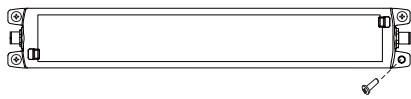

Figure 9. SG Type Installation
- After tapping the mounting holes to a flat and sturdy surface, use four M5 screws for mounting, as indicated in the following figure. The recommended torque for the M5 screw is 2.8 N·m. [Refer to Figure 9. SG Type Installation]